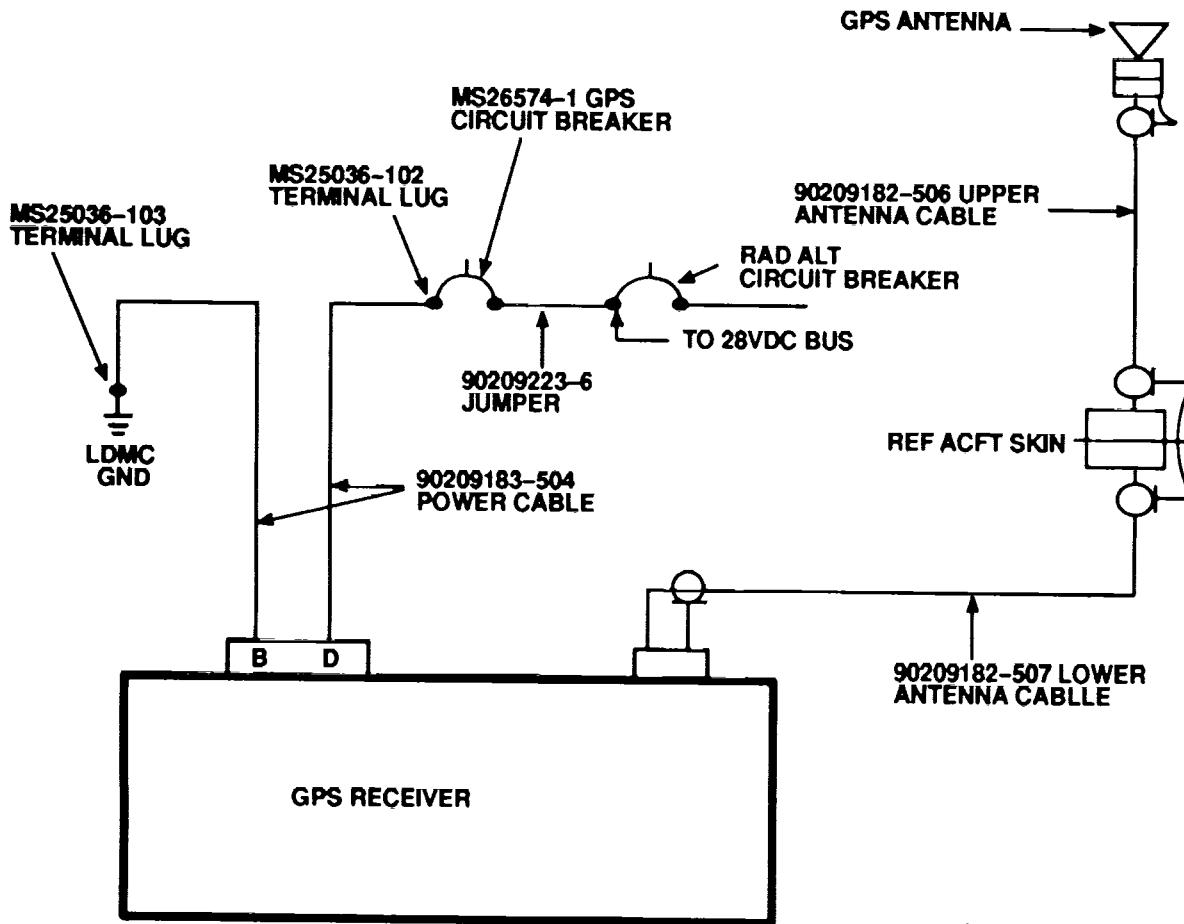

Figure 7. GPS Wiring Diagram.
(1) Perform continuity check on coax cable for Trimpack remote antenna.
(2) Close access to overhead console circuit breakers and wiring.
(3) Install overhead cabin sound proofing blanket.
(4) Connect aircraft battery.
(5) Apply aircraft power to provide 28 VDC to GPS circuit breaker.
(6) Verify pin B of GPS five pin audio connector is common with airframe ground.
(7) Verify that pin D has 28VDC (Figure 7).